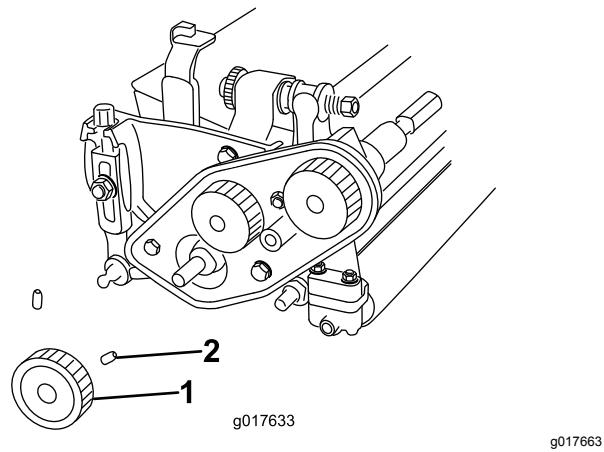

Figure 5
3. Loosen the 2 set screws securing the lower pulley and remove the pulley from the reel shaft (Figure 5).
- B. Install the lower pulley onto the reel drive shaft, securing it with 2 set screws onto the key on the shaft (Figure 5).
- B. Install the pulley to the reel shaft using the 2 set screws that you removed previously (Figure 5).